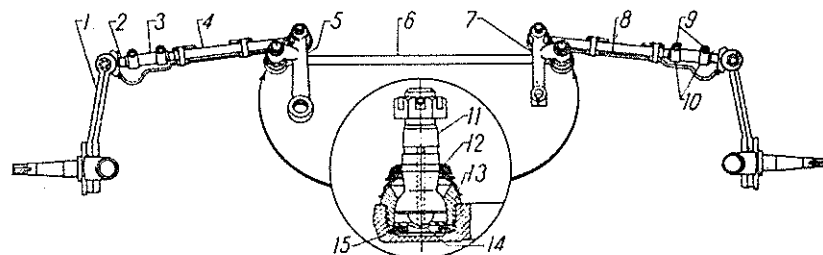

Fig. 29. Steering Rods
1. Uncotter and loosen two bolts 9 of clamps 10 coupling the ends of adjusting tube 3 (Fig. 29).
then turn the clamps in the position shown in Fig. 29, tighten the clamp bolts and insert cotter pins.